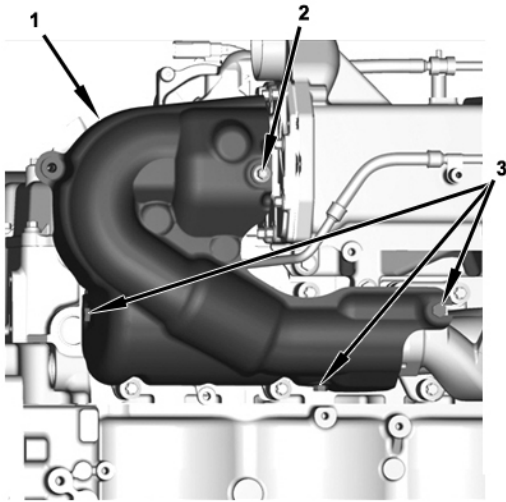

Figure 33 EGR Inlet Tube Heat Shield
10. Install EGR inlet tube heat shield (1). Install one M8 x 25 heat-resistant bolt (2), three M8 x 12 bolts (3), and torque to 18 lb-ft (24 N•m) (Figure 33).